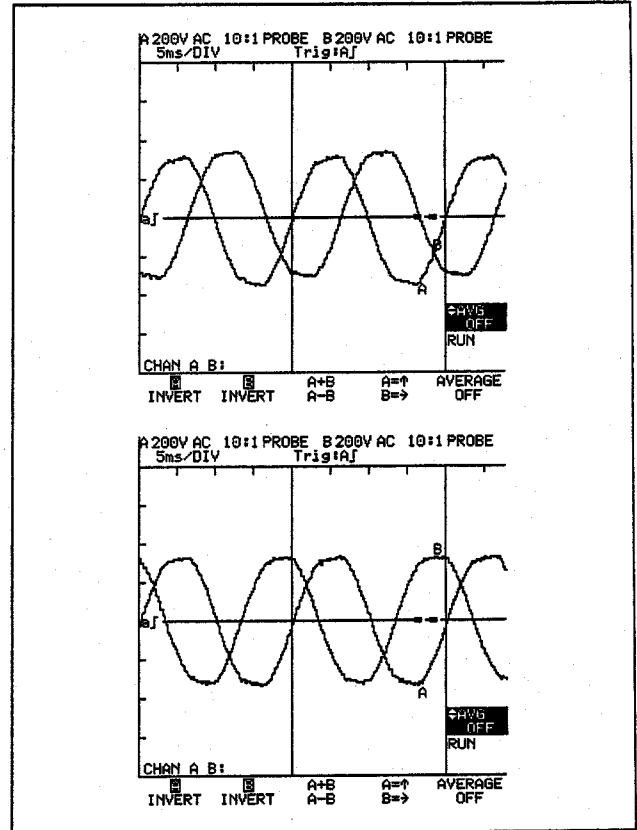

Figure 5.9 Rotation measurements
⑥ Turn circuit breaker on.
⑦ Measure connection 1 and connection 2 (see Figure 5.9).
The upper waveform is Figure 5.9 shows that line 2 (channel B) follows line 1 (channel A). The lower waveform shows line 3 follows line 1.